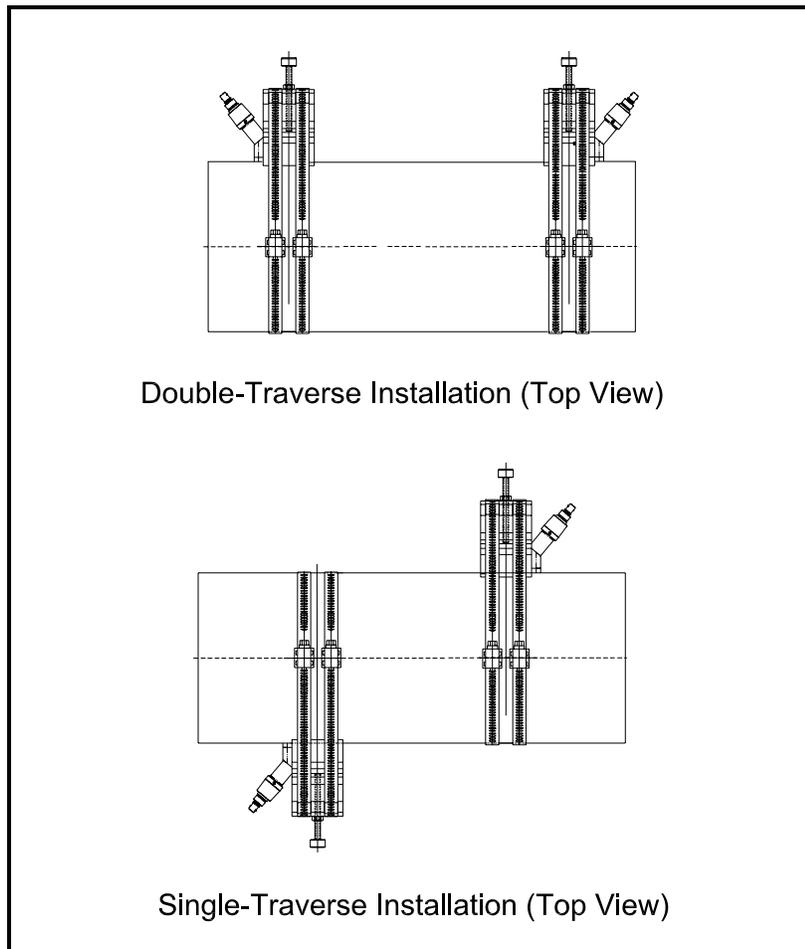

Figure 24: Completed CF-ES Installations with Transducers
5. Repeat Steps 1 to 6 to mount the other transducer in the remaining block. See Figure 24 below for completed installations.